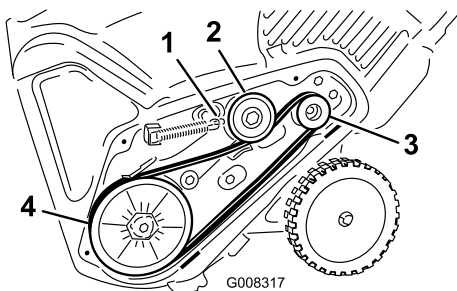

Figure 39
- Install the new drive belt, routing it as shown in (Figure 39).
- Install the brake spring onto the idler arm (Figure 39).